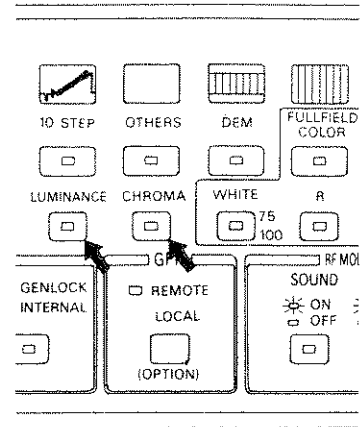

Figure 4.12
4.2.10 Turning Chroma and Luminance Signals On/Off (See Figure 4.12)